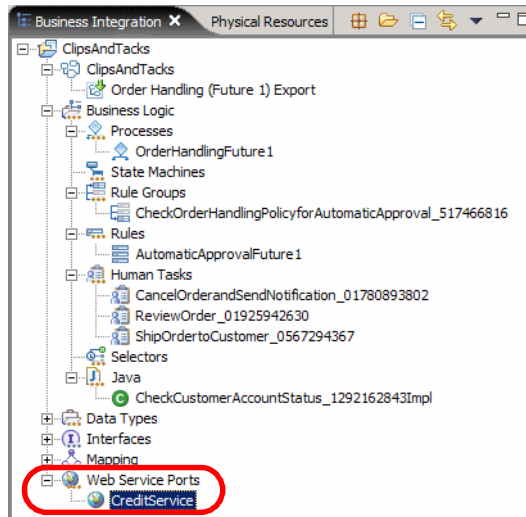

Figure 9-50 Business Integration view with Web service
- ▶ The Web service shows up in the Business Integration view under Web Service Ports (Figure 9-50).